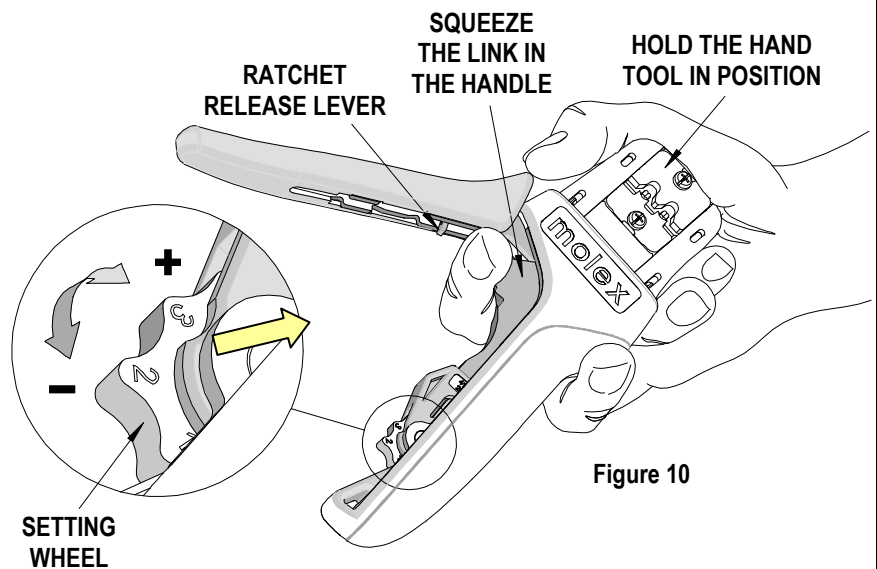

Figure 10
### How to Adjust Tool Preload (See Figure 10)
1. Hold the hand tool in the palm of your hand as shown in Figure 10. Using the index finger squeeze the link towards the top of the hand tool frame. This will release the preload adjustment wheel.
2. Rotate the setting wheel counter-clockwise (CCW) to increase handle force. The numbers will display higher. To decrease handle force rotate the setting wheel clockwise (CW).